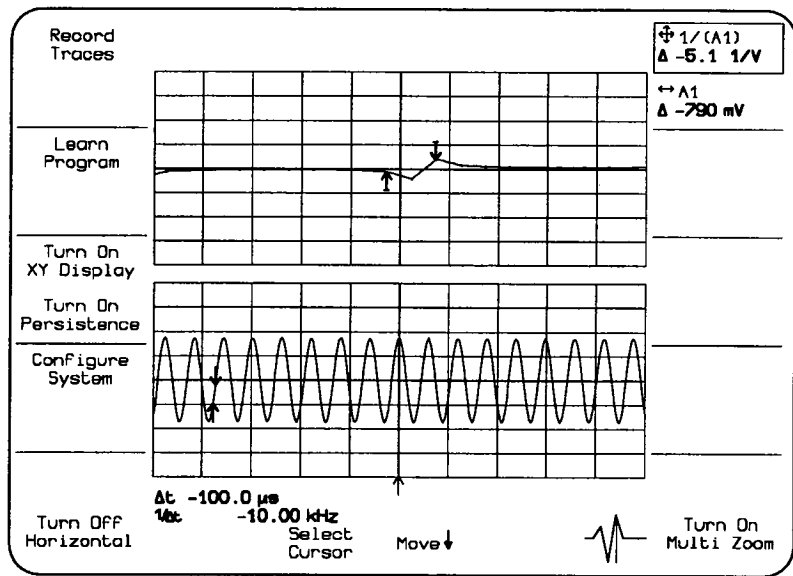

Figure 3.17: Horizontal measurement on multiple traces
More than one trace can be measured simultaneously if they have the *same* horizontal units. The cursors are shown at the same horizontal position relative to the trigger on each trace with the same units. See Figure 3.17.
- Select Horizontal cursors by repeatedly pressing the CURSOR MEASUREMENTS key until Horizontal appears in the softkey label in the lower left screen. Upward and the downward arrows appear, similar to those shown in Figure 3.17.
Note: When a trace is expanded so that individual data points are highlighted and the cursor is positioned on an acquired data point a serif will be attached to the cursor perpendicular to the ends of the arrow shaft. If a cursor is positioned between acquired data points, on interpolated data, there will be no serif on the end of the cursors arrow shaft. See Figure 3.17.